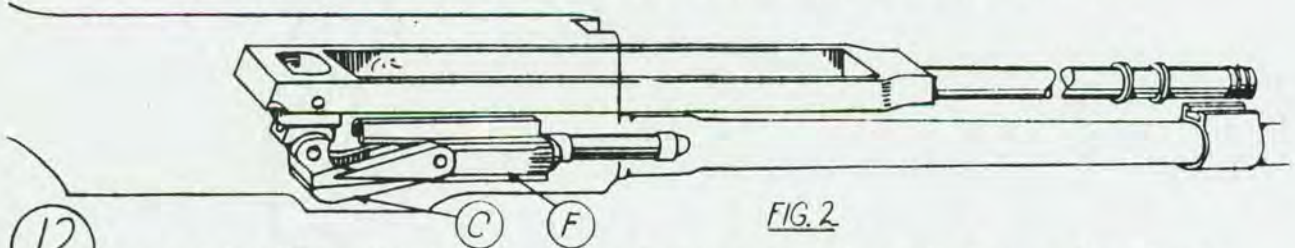

FIG. 2
11 MOVE OPERATING SLIDE (A) TO REAR TO RETRACT BOLT. INSERT A 1.940" GAGE (B) IN BARREL AND PULL OPERATING SLIDE (A) FORWARD. THE BOLT LOCK (C) WILL GO INTO POSITION, FIG. 2. HAMMER PIN (D) SHOULD STAND AT LOCKED POSITION X, FIG. 1. MOVE SLIDE (A) TO REAR TO RETRACT BOLT (E). PARTS SHOULD SLIDE EASILY. REMOVE GAGE (B).